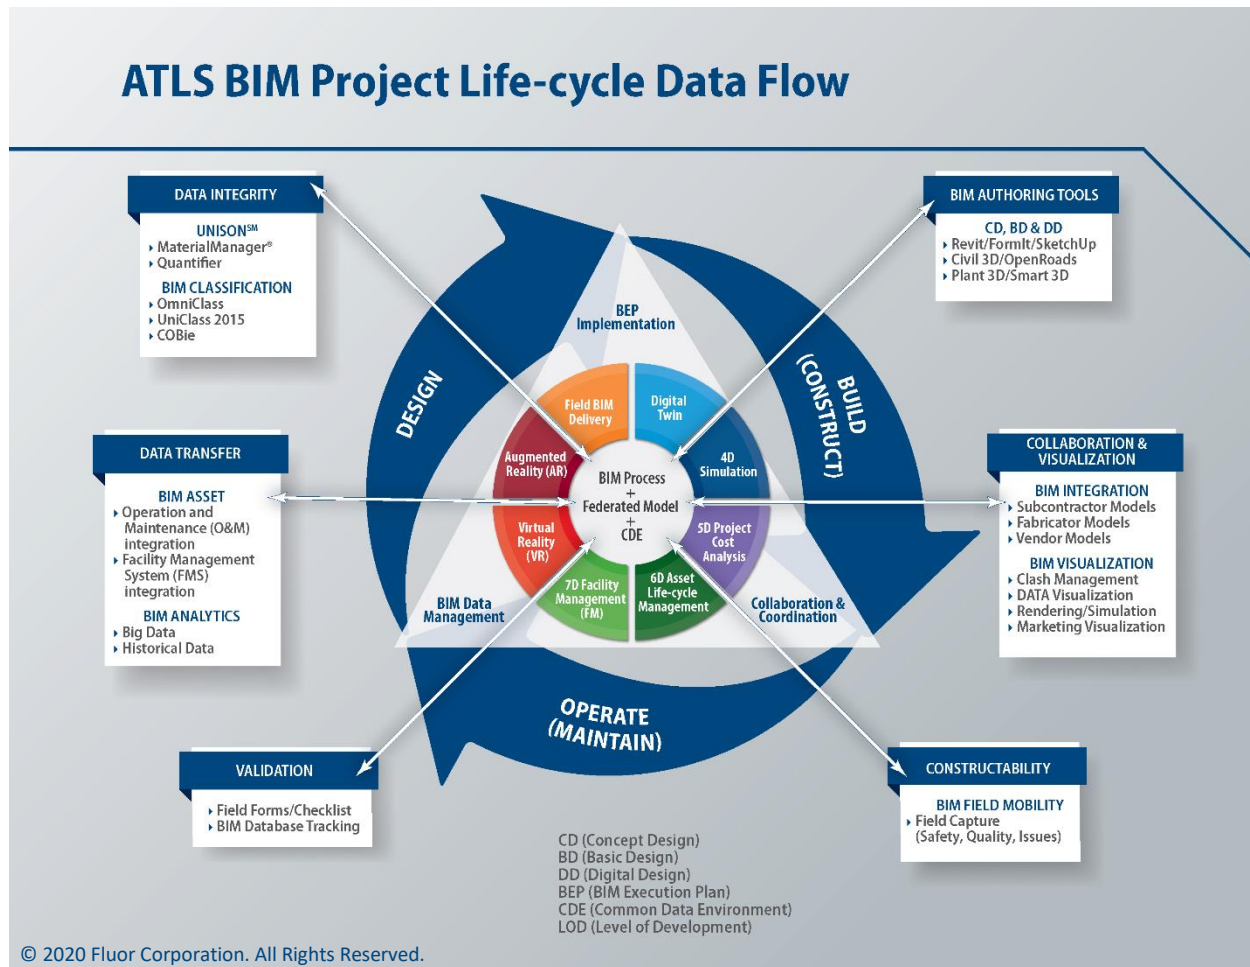

Figure 1 – BIM Project Life-cycle Data Flow.
BIM has evolved a great deal over the last 10 years, and projects are looking to get more from BIM than ever before. The projects that supported the baseline information in this document ranged in size from a couple hundred thousand dollars to multibillion dollars TIC. No matter which industry, each client has their own BIM expectations and unique BIM data they require, and a good BIM execution approach will help meet the clients' specific needs. The key to getting more out of BIM is a disciplined approach to BIM processes, solid work flows in the management of the Federated Model, and an organized plan to manage BIM data in a common data environment (CDE). In *Figure 1*, these three functions represent the center of BIM execution and the key to get the most out of a BIM program. The center of BIM supports key BIM outputs (Color Wheel in *Figure 1*) such as field BIM delivery, 4D simulation, 5D cost analysis, 6D asset life-cycle management, 7D facility management (FM), virtual reality (VR), augmented reality (AR), and digital twin. To successfully set up the BIM program to deliver the required results, it is critical to focus on three main areas (the three corners of the triangle in *Figure 1*): BIM execution plan (BEP aka BxP) implementation, collaboration and coordination, and BIM data management. The following sections will focus on these three areas and provide some insight on how to best approach them in BIM execution.